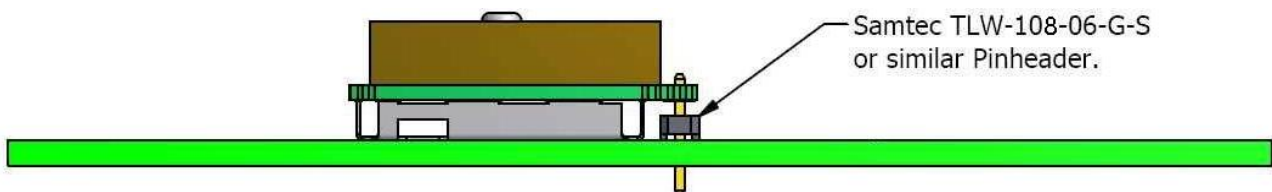

Figure 5: Side view of the pin header assembly for the PAM-7Q module.
- Solder the pin header to the module in such way that the pins are as short as possible on the antenna side of the PAM-7Q module (see Figure 5).